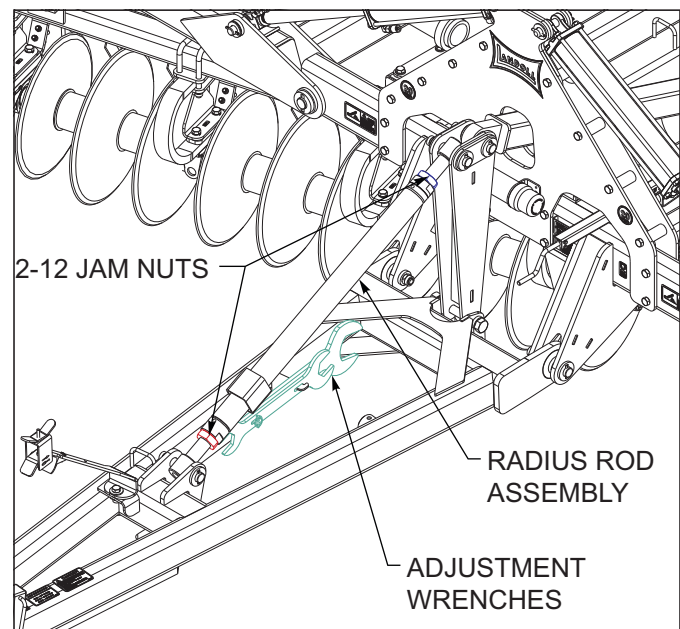

Figure 4-6: Radius Rod Leveling Adjustment
3. To adjust the leveling feature, loosen 2-12 jam nuts at each end of the radius rod assembly using the adjustment wrenches *See Figure 4-6*. To raise the front of the Weatherproofer, lengthen the radius rod assembly. To lower the front of the Weatherproofer, shorten the radius rod assembly. After adjusting, retighten jam nuts at each end. Adjustments should be made in small increments.